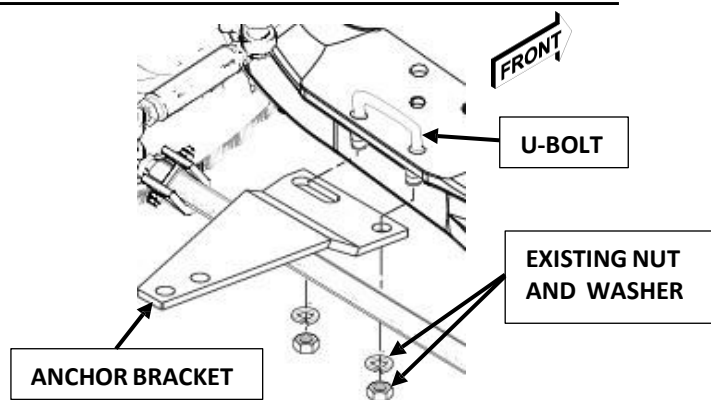

FIGURE 2. ANCHOR BRACKET INSTALL TO AXLE SUSPENSION U-BOLT
2. Using a socket wrench with a 1-1/8-inch socket, remove two **existing nuts (and washers if installed)** from axle spring rear **U-bolt** on driver's side of front axle assembly. If **nuts** are difficult to remove, apply penetrating oil lubricant and re-attempt removal using a breaker bar or impact wrench for assistance (Figure 2).
3. Using a torque wrench with a 1-1/8-inch socket, install and secure **Anchor Bracket** to existing axle spring rear **U-bolt** with two existing **nuts (and washers if previously installed)** that were removed in step 2, and torque **nuts** to a **recommended 250 foot-pounds. Be sure to double check your vehicle manufacturer torque specifications of nuts** (Figure 2).